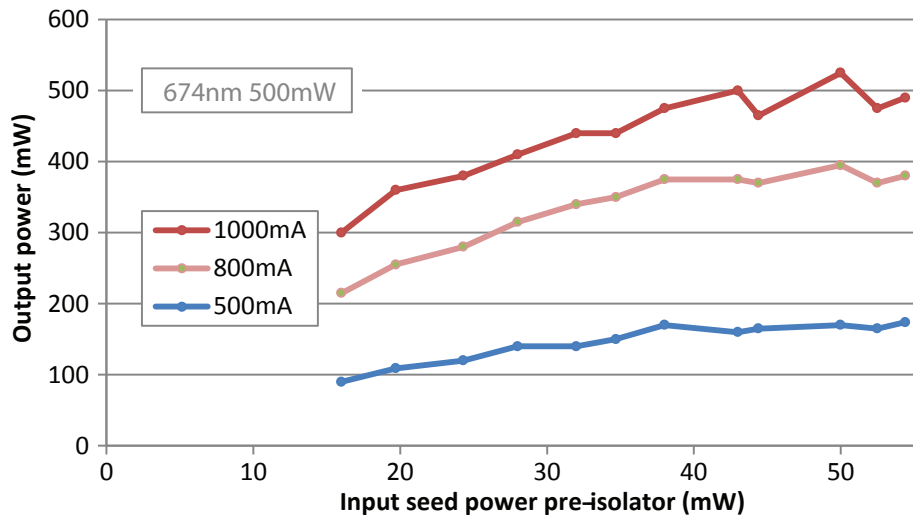

Figure 3.3: TA output power against seed power, for several diode currents.
2. With TA current of 0.3 A (500 mW devices), 0.5 A (1000 mW devices) or 0.7 A (2000 mW devices), increase the seed power and verify significant output from the TA (see figure 3.3). The TA output is predominantly ASE (amplified spontaneous emission) until the seed power is increased to several milliwatts. The TA output will normally saturate with seed power of 10 mW to 50 mW depending on the specific TA diode and the efficiency of coupling of seed into the amplifier.